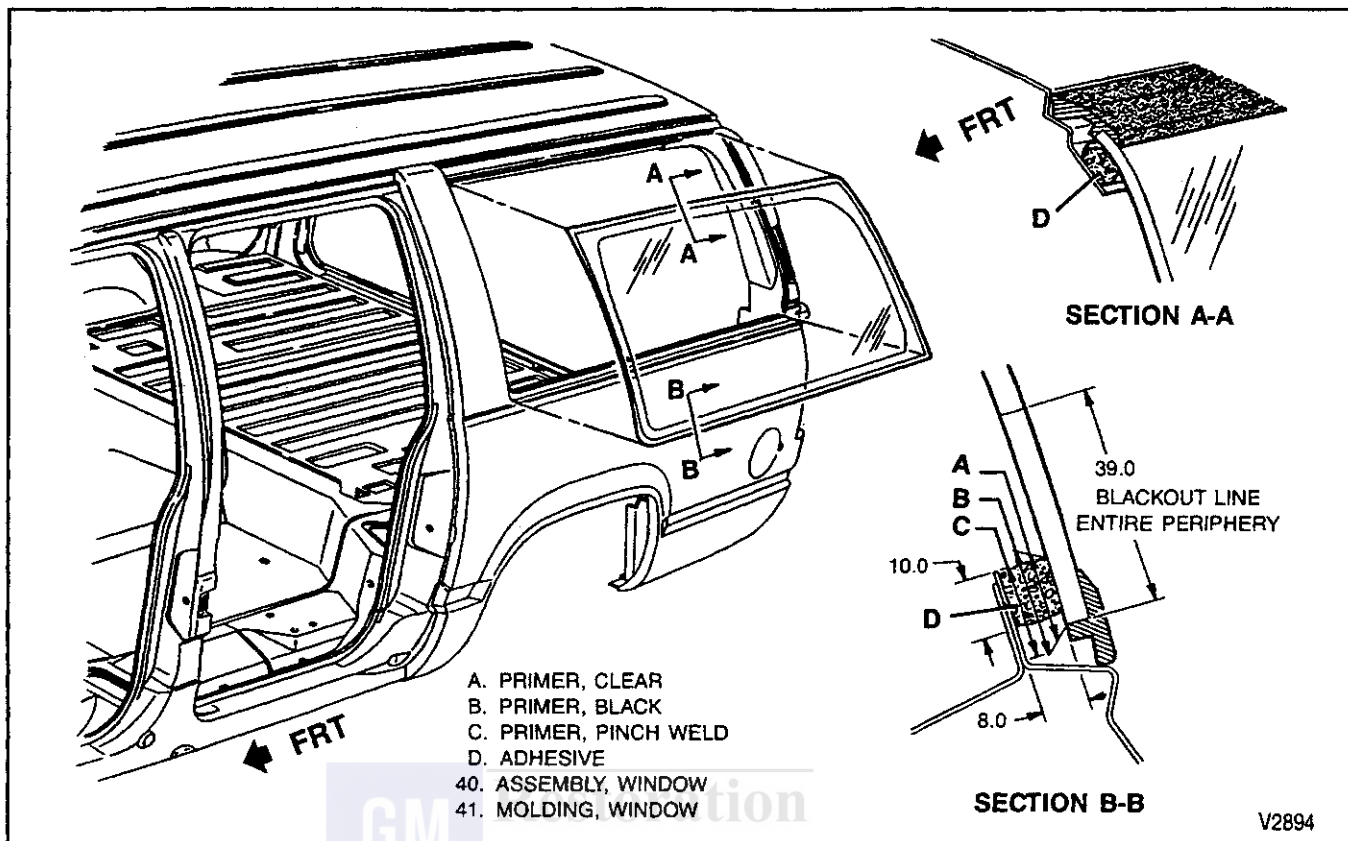

Figure 6—Stationary Body Side Glass
2. Clear primer to the window covering an area of 18 mm (3/4 inch) from the edge of the glass (figure 6 and 7).